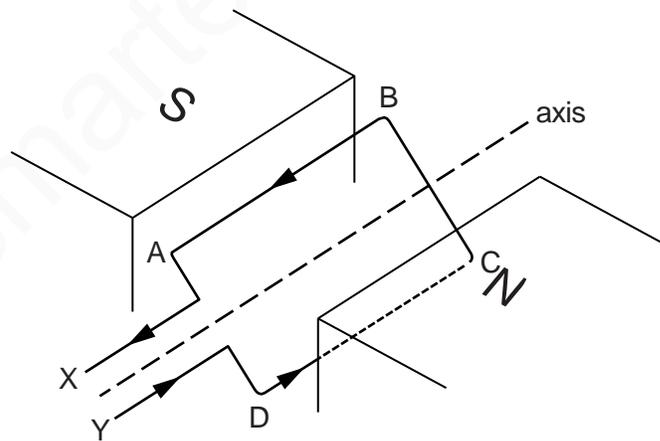

Fig. 10.2
- (b) Fig. 10.2 shows part of a model of a d.c. motor.
- (i) On Fig. 10.2, draw arrows to show the directions of the forces acting on side AB and on side CD of the loop. [1]
- (ii) With the loop in the position shown in Fig. 10.2, explain why the forces on AB and CD cause the loop to rotate about the axis.